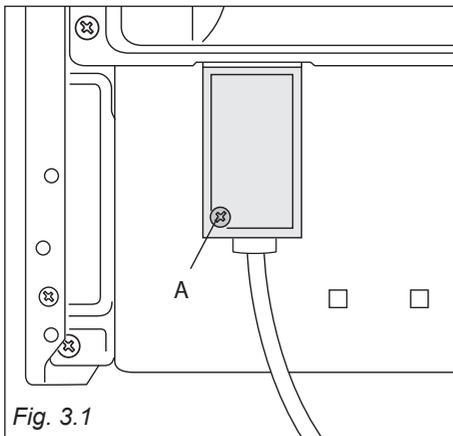

Fig. 3.1
- Remove the screw securing the cover “A” on the rear of the cooker (fig. 3.1).